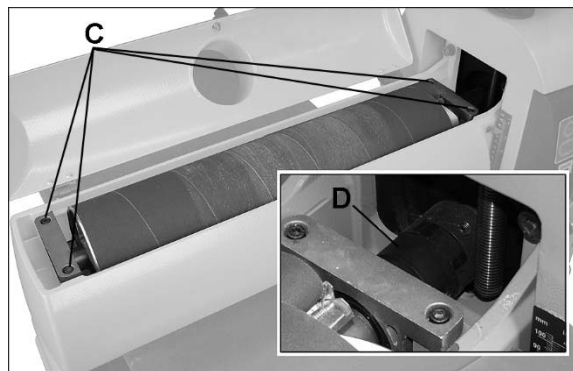

Figure 19
Remove four socket head screws (C, Figure 19). Carefully lift out drum with coupling (D) attached.